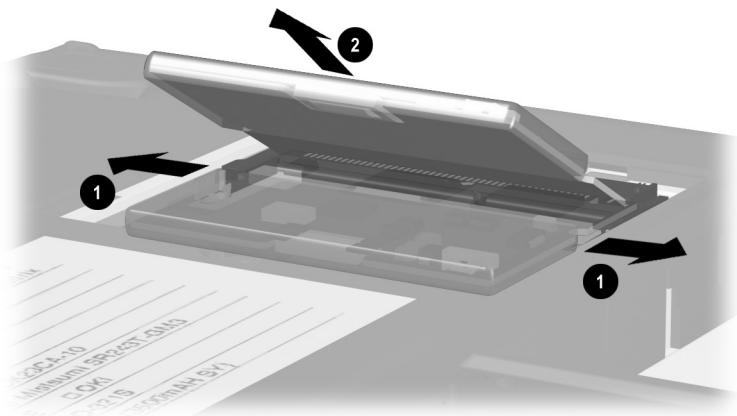

Figure 5-12. Removing a Mini PCI Communications Board
6. Spread the retaining tabs to release the mini PCI communications board ❶. The board tilts up at a 45-degree angle (Figure 5-12).
7. Remove the board by pulling it away from the connector at a 45-degree angle ❷.